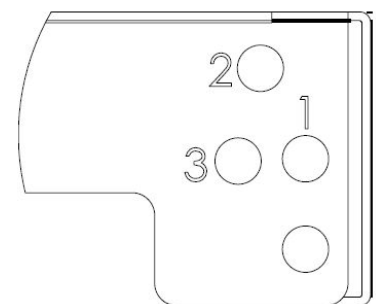

Figure 3
2. Insert one grommet into each of the four holes on the inside of the bracket (see **Figure 1** and its callout and **Figure 3**).
NOTE: The brackets are designed to work with other manufacturer’s enclosures. Use Figure 3 as a reference for which holes to use with which manufacturer. (#1 = Greyfox or Pass and Seymour, #2 = Open House or Leviton and #3 = On-Q.